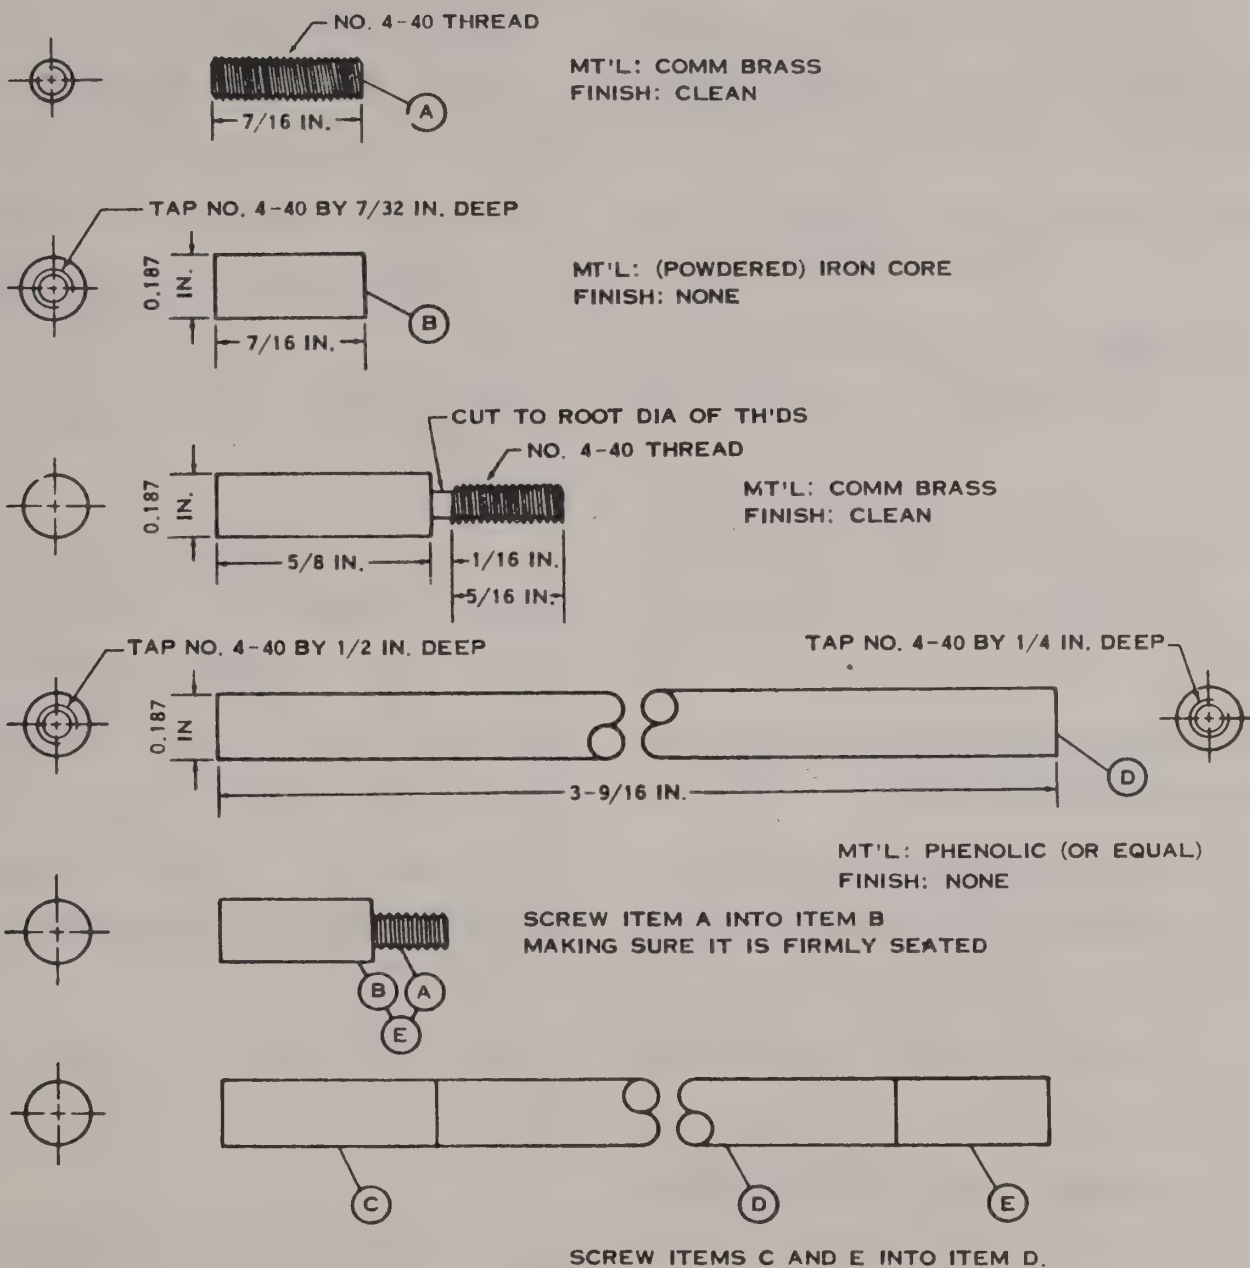

Figure 2-4 Tuning Wand Fabrication Details.
(1) Slot screwdriver.
(5) Turning Wand (See Figure 2-4) 2 ea.